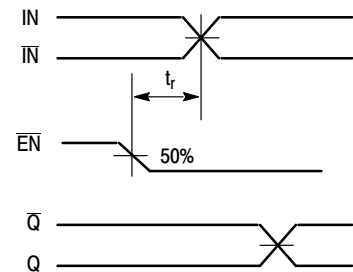

Figure 5. Release Time
7. The release time is the minimum time that EN must be deasserted prior to the next IN/ \bar{IN} transition to ensure an output response that meets the specified IN to Q propagation delay and output transition times (Figure 5).
- The release time is the minimum time that \overline{EN} must be deasserted prior to the next IN/\overline{IN} transition to ensure an output response that meets the specified IN to Q propagation delay and output transition times (Figure 5).